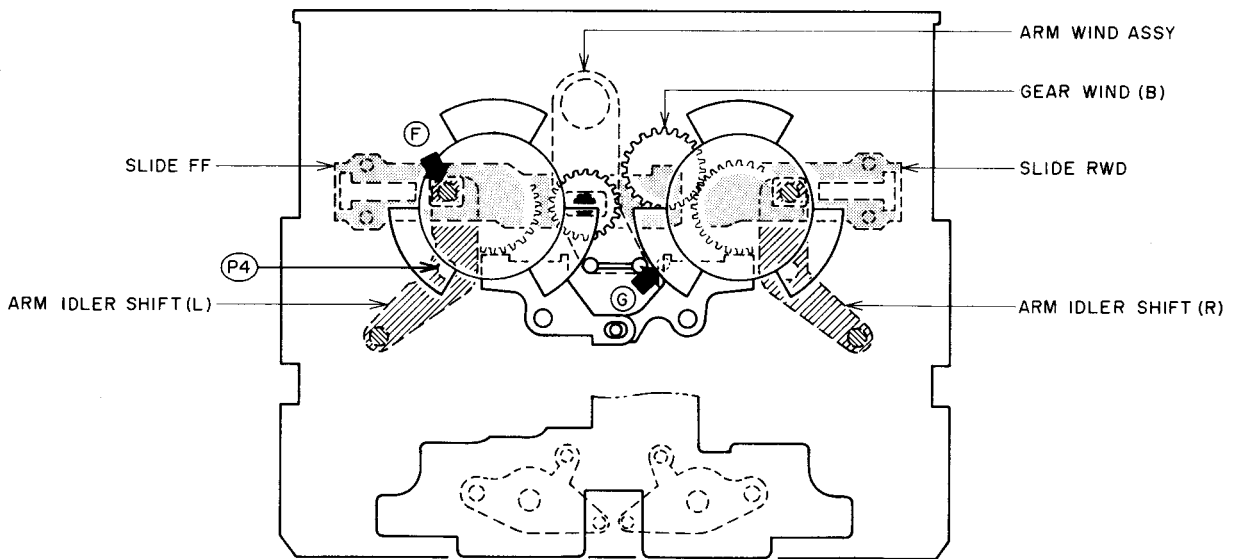
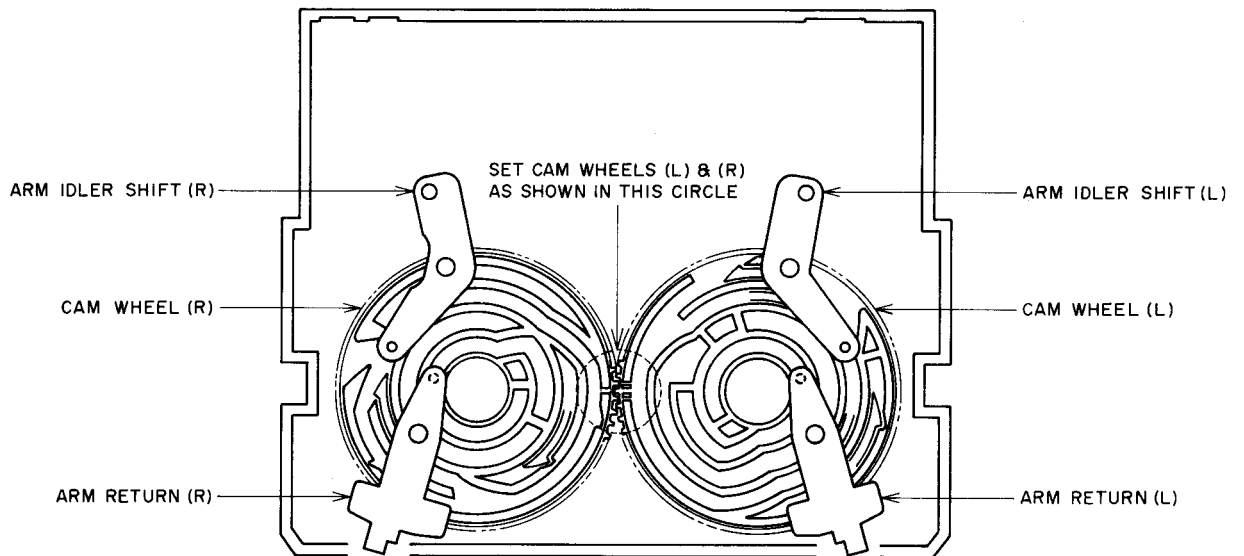

Fig. 6-4 The Mechanism for FF/RWD (includes IPLS & Intro Scan)
Fig. 6-6 The Location of Arm Idler Shift & Arm Return (Inside View)
3) FF mode (Refer to Fig. 6-4)
- a) Cam Wheels (L) & (R) turn counter-clockwise (L) and clockwise (R) for 43 counts and turn the other way (clockwise (L), counter-clockwise (R)) until the count is reduced to 25.
- b) In FF & RWD modes, only Arm Idler Shift (L), (R) are involved.
4) RWD mode (Refer to Fig. 6-4)
- a) Cam Wheels (L) & (R) turn clockwise (L) and counter-clockwise (R) for the same counts as FF mode.
- b) The mechanical operations in RWD mode can be obtained from the description of the FF mode in item 1) by interchanging left (L) and right (R).
- b) The mechanical operations in this mode are the same as in FF mode, except that the Arm Head Shift (L) pushes up the Chassis Head Part which raises the Head Block to the FF Search mode position.
- b) The mechanical operations in this mode are the same as in REW mode, except that the Arm Head Shift (R) pushes up the Chassis Head Part which raises the Head Block to the RWD Search mode position.
**6-1-10.** How to install Cam Wheels (L) and (R). (Refer to Fig. 6-6)
Set Cam Wheels (L) and (R) as indicated in Fig. 6-6.